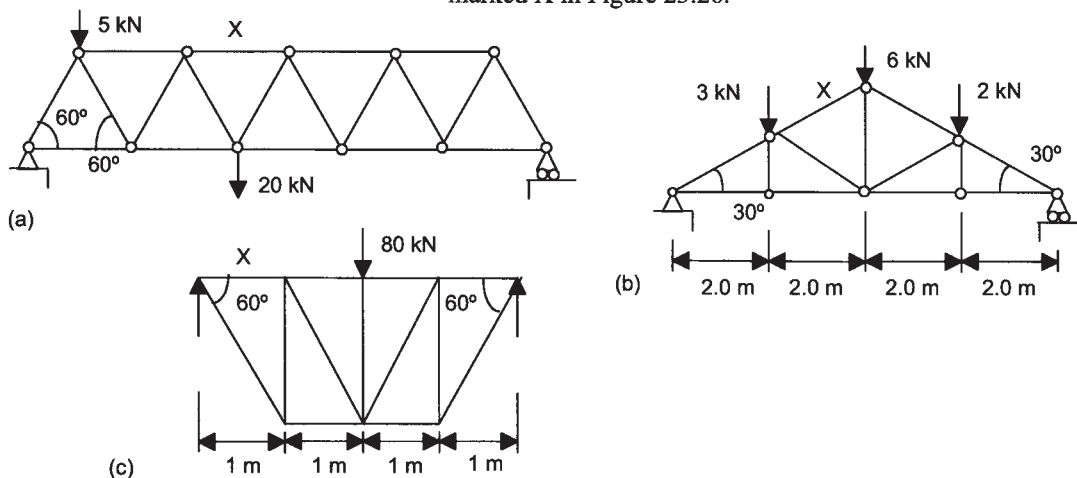

Figure 23.26 Problem 10
- 10 Using the method of section, determine the forces in the members marked X in Figure 23.26.